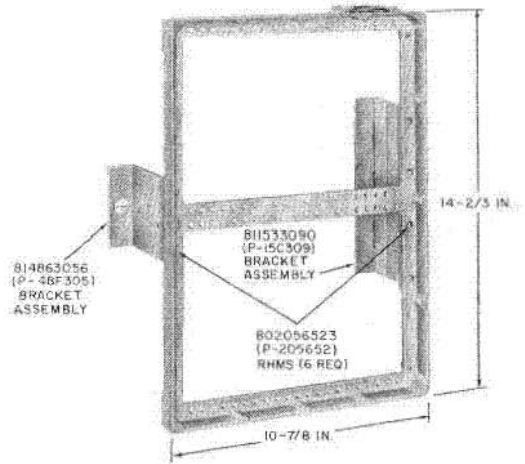

Fig. 9—31B Apparatus Mounting
**3.06** The 31B apparatus mounting (Fig. 9) is a die-cast aluminum hinged framework comparable to the 31A (MD) apparatus mounting. Primarily used to mount panel-type 200-series KTUs, the 31B apparatus mounting is designed for use with the 177A backboard and can be arranged to open either to left or right. The unit can be protected with a 116A cover. The 814863056 (P-48F305) and 811533090 (P-15C309) bracket assemblies and associated fasteners must be ordered separately. (The 814863056 contains a Simmons fastener oval head stud No. 5.)